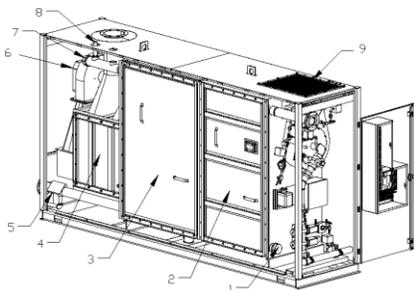

Figure 1 Triple-Flex Left Flue Collector View
To accomplish this, a flue gas analyzer is necessary and the burner should be locked at any specific firing rate. It will be necessary to remove the jacket doors, at the rear of the boiler to expose the primary air-to-air exchanger access cover, (Figure 1, item 4). In the lower right-hand corner of the access cover there is a flue gas sampling port that is plugged.